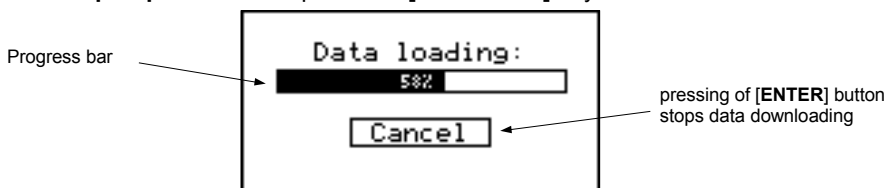
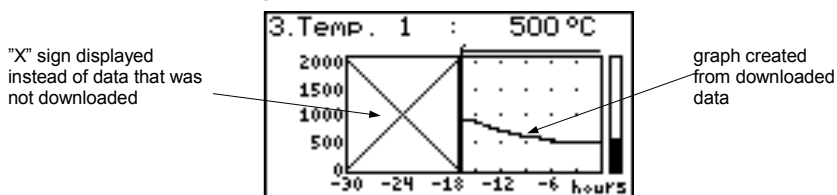

Fig. 6.18. Message displayed when loading data to be displayed on the graph.
Fig. 6.19. Display in "Graph" mode in the case where data upload was stopped.
- i** If downloading the data (recorded measurement results) necessary for displaying the graph takes more than 1 second an appropriate message is displayed (Fig. 6.18). Pressing [ENTER] will stop the data downloading process and display a graph made on the basis of the data downloaded so far. "X" will be displayed instead of data that was not downloaded (Fig. 6.19).